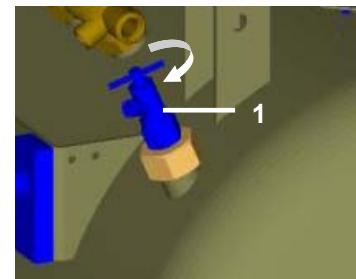

Fig.10
Compressors (Fig.10)
If the compressor will not be used for a prolonged time period, drain any condensate from the air tank. Then turn on the compressor for 10 minutes, keeping the drain valve open (1) (Fig.10). Switch off the compressor by switch (3) at pressure switch (2) (Fig.9), close the drain valve and disconnect the appliance from the mains.
- Release air pressure in the pressure tank by opening the drain valve (1) (Fig.10).